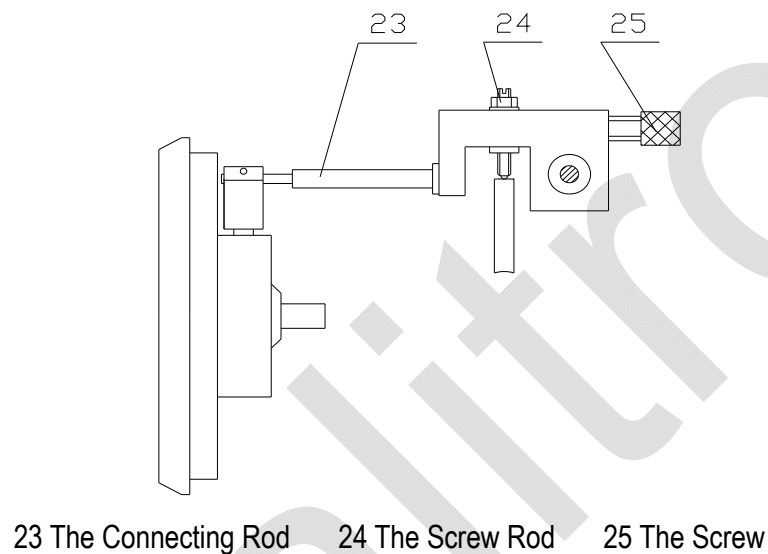

Fig. 4
4. The Rockwell Hardness Value Regulated (Fig.4)